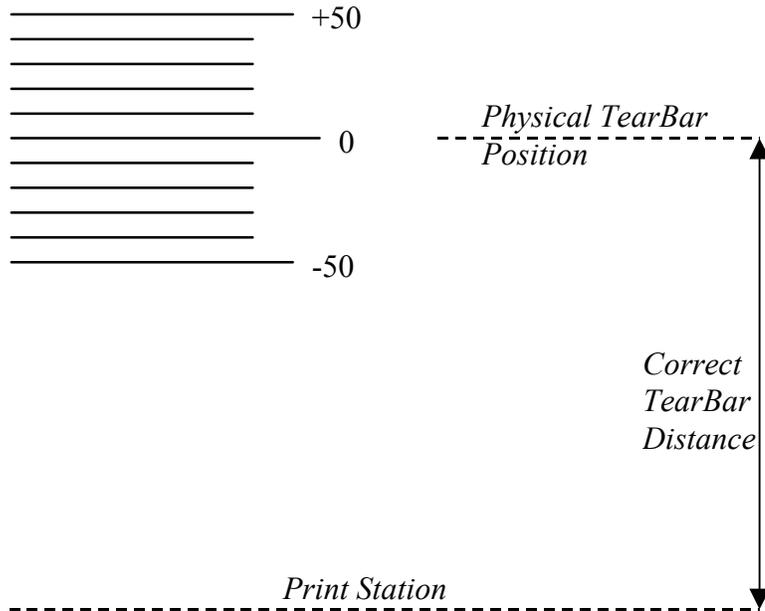

Figure 5. Correct Tear Bar Distance
9. Press **ENTER** to select the desired value. An asterisk appears next the selected value and a scale prints to indicate the tear bar distance in relation to the tear bar. For correct tear bar distance, the zero should align with the tear bar. See Figure 5.